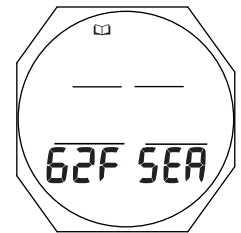

Fig. 34 - LOG DATA 2
**Log Data 2**, information includes (Fig. 34):